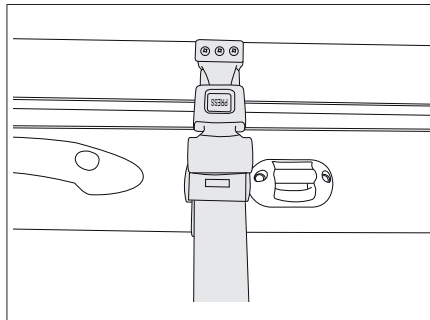

Fig. 173 Safety belt
- Loosen the retaining belt (Fig. 173).
- Attach the retaining belt (Fig. 173).